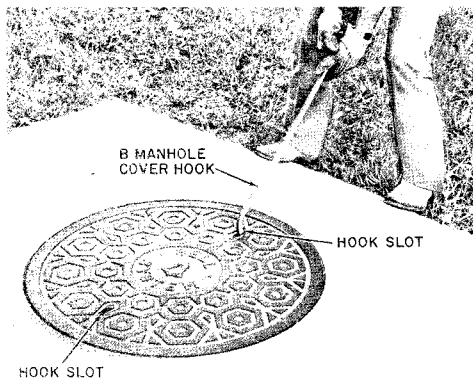

Fig. 12 - Preparing to Unseat Type R Manhole Cover
5.04 The type-R cover has two hook slots in the surface of the cover approximately 4 inches in from the rim. This cover can be removed by one craftsperson inserting a manhole hook in the slot and lifting and sliding the cover from the frame (Fig. 12).